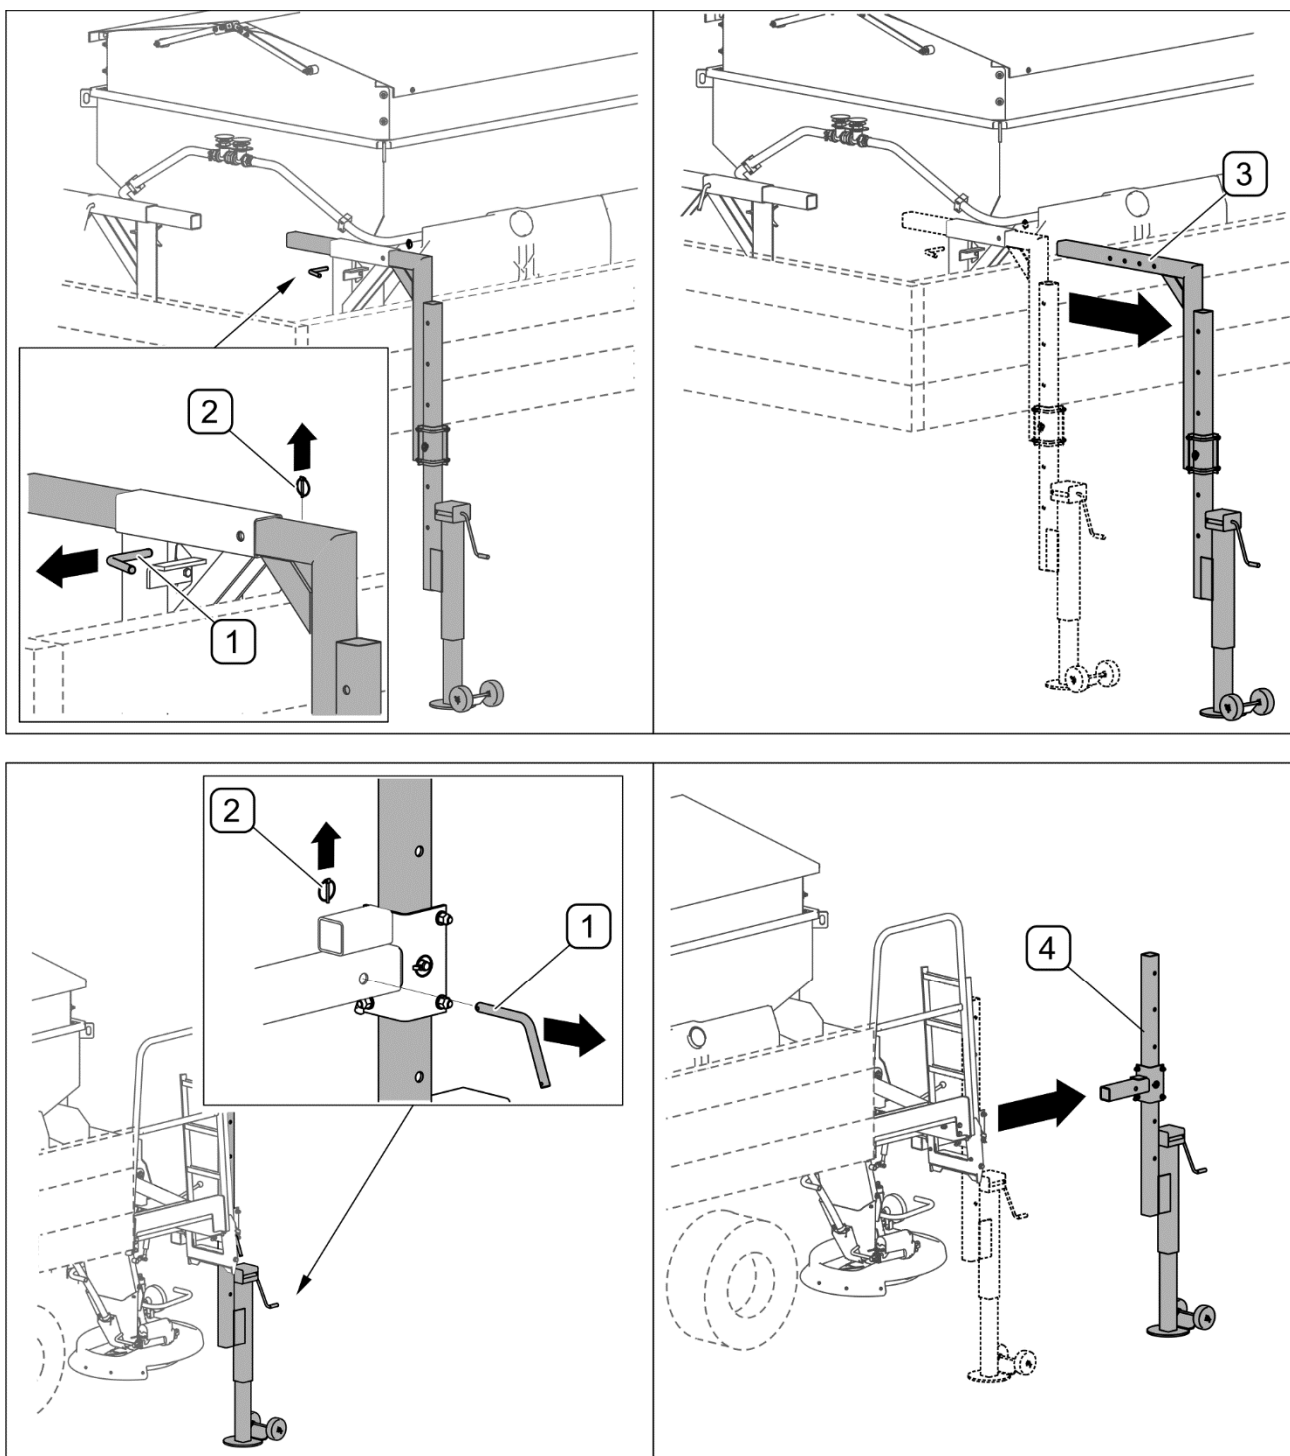

FIG. 4.3 Dismantling the parking stands
- When the machine is fully supported on the load platform, remove linchpins (2) and pins (1) that secure stands in guides (FIG. 4.3).
- Dismantle front stands (3) and rear stands (4) and keep them for further use.